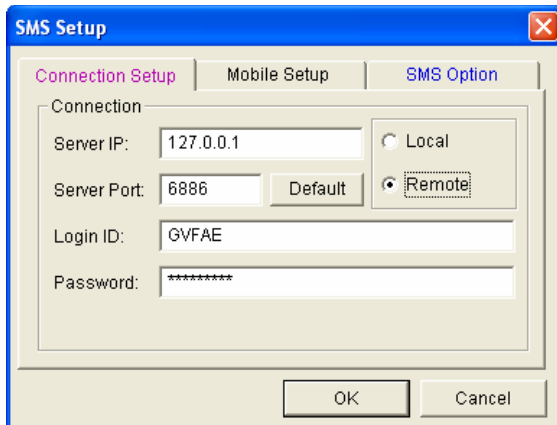

Figure 10-13 SMS Setup-Connection Setup
2. Type a login ID and a password. They will be the ID and password for the client to log in the SMS Server (Figure 10-13).
2. Click the **Account Setting** button. The SMS Setup dialog box appears. (Figure 10-13).